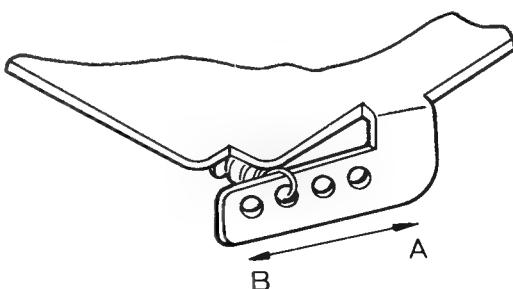

Figure 7-16.
- 1) If the tape tension is weak (smaller than 23–28g), move the hook of the spring toward A (see Figure 7-16) and check tape tension again.
- 2) If the tape tension is strong (smaller than 23–28g), move the hook of the spring toward A (see Figure 7-16) and check tape tension again.